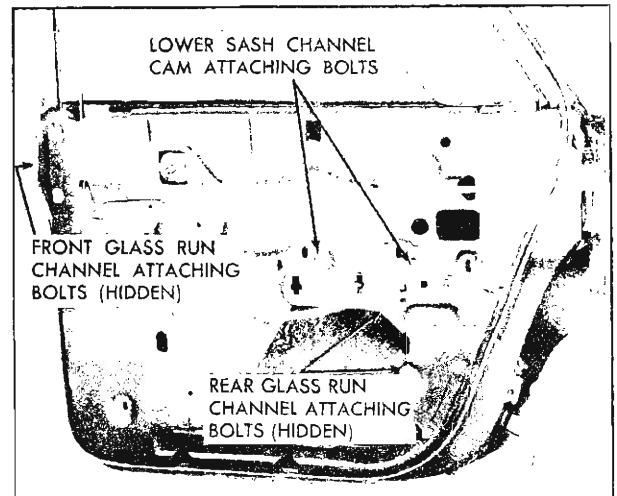

Fig. 52—Rear Door Run Channels and Cam
2. Remove lower sash channel cam attaching screws and disengage cam from sash channel (fig. 52).